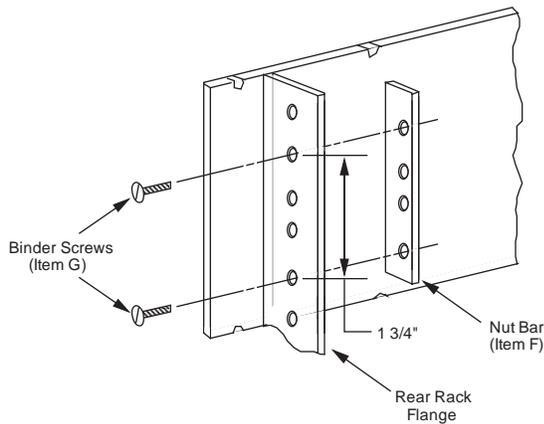

Figure 7-2
3. Loosely attach a nut bar (item F) to each rear rack flange with two binder head screws (item G). See Figure 7-2. Mount the nut bars with the outer holes at the same level as the captive nuts. Note that the hole pattern on the nut bar is not symmetrical.